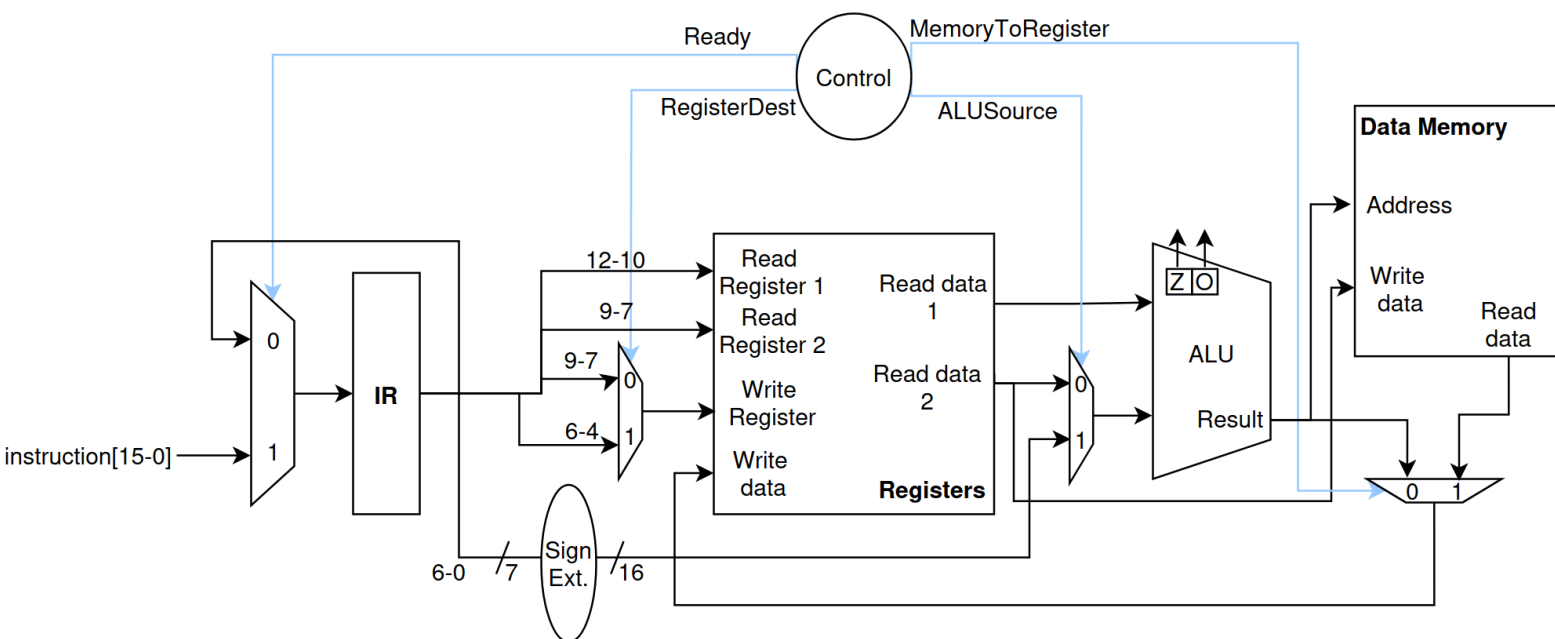

Figure 1: Basic 16-bit RISC processor with 8 16-bit general purpose registers
- b. Why is the sign extension unit in *Figure 1* necessary for immediate instructions? Why would there be an issue if we didn't sign-extend the immediate/address?
- c. For a *Load* instruction, what does the CPU need to do, step-by-step, to fetch a value from memory into a register based on *Figure 1*? What about the *Store* instruction?
To automate this process, in place of an instruction register like in *Figure 1*, you will replace it with RAM. This will allow you to fill the RAM with instructions upon programming the processor, which will automatically run on each clock cycle.